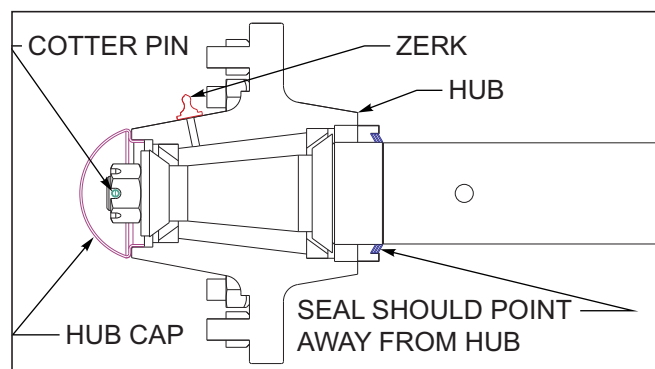

Figure 5-2: Triple Lip-Seal
The triple-lip seals should point away from the hub to keep contaminants out and allow grease to pass See Figure 5-2.
1. Install a new cotter pin and replace the hub cap. *See Figure 5-2.*